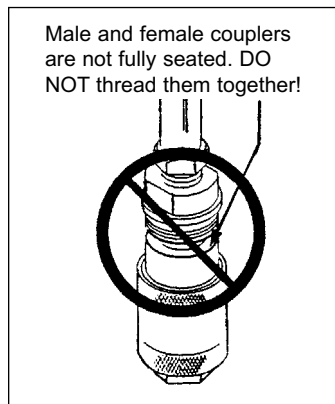

Figure 2
**IMPORTANT:** Quick couplers must be fully tightened to allow flow of hydraulic oil to auxiliary ram. (See Figures 2 and 3.)